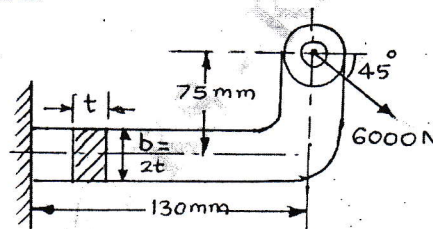

Fig. Q1 (a)
- 1 a. A mild steel bracket as shown in Fig. Q1 (a) is subjected to a pull of 6000 N acting at  $45^\circ$  to the horizontal axis. The bracket has a rectangular section whose depth is twice the thickness. Find the cross sectional dimensions of the bracket, if the permissible stress in the material of the bracket is limited to 60 MPa. (10 Marks)
- b. A point in a structural member is subjected to plane stress is shown in Fig. Q1 (b). Determine the following: